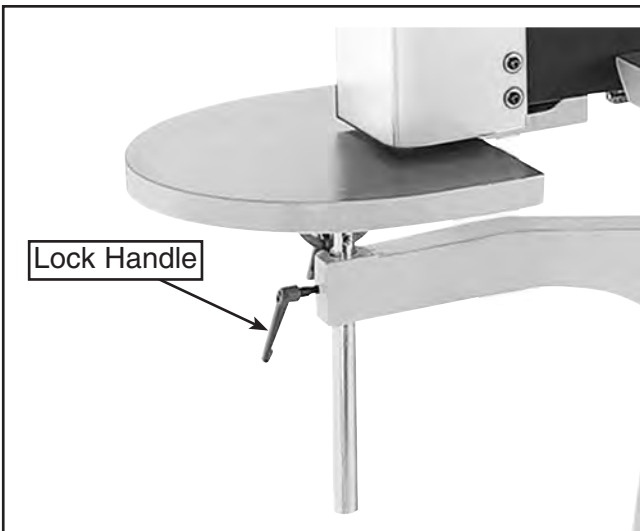

Figure 18. Lock handle for side table height.
1. Loosen the lock handle shown in **Figure 18**.